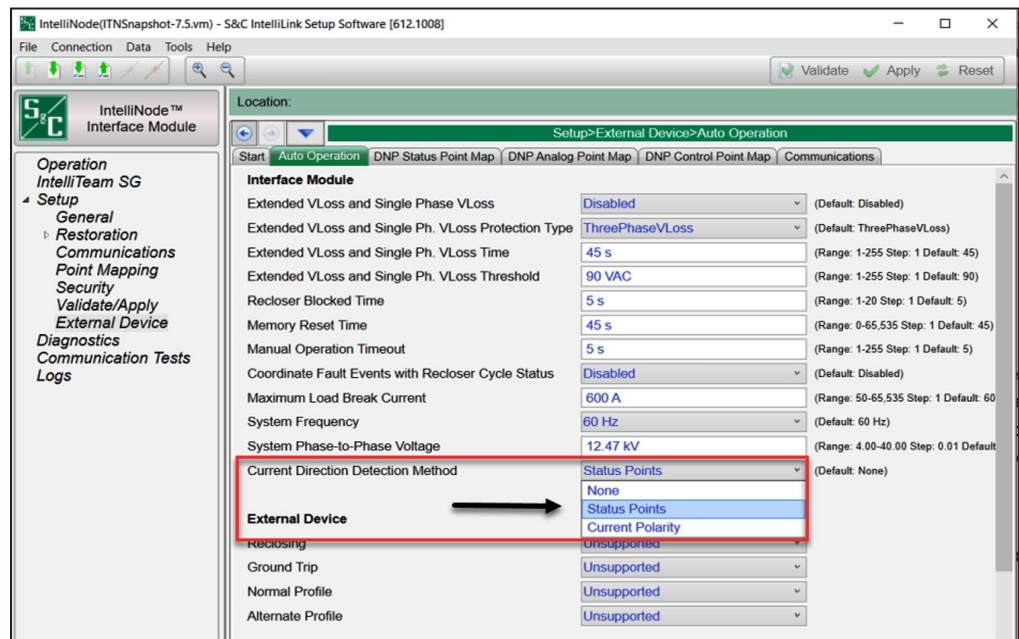

Figure 25. The IntelliNode Module Setup>External Device>Auto Operation screen.
STEP 2. When using the **Status Points for Current Direction Detection Method** feature with IntelliNode modules, go to the *Setup>External Devices>Auto Operation* screen and select “Status Points.” See Figure 25 on page 25.